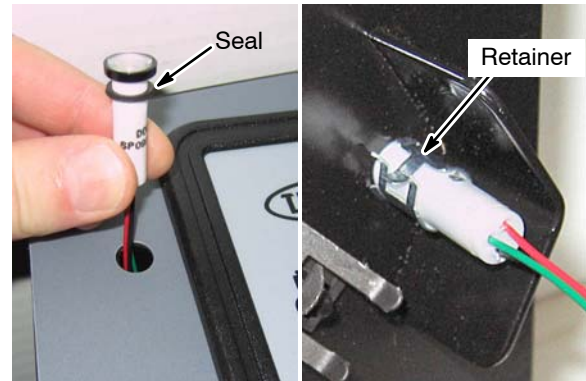

Fig. 9
7. Install the LED light [p/n 1041822] into the panel as shown (Figure 9).